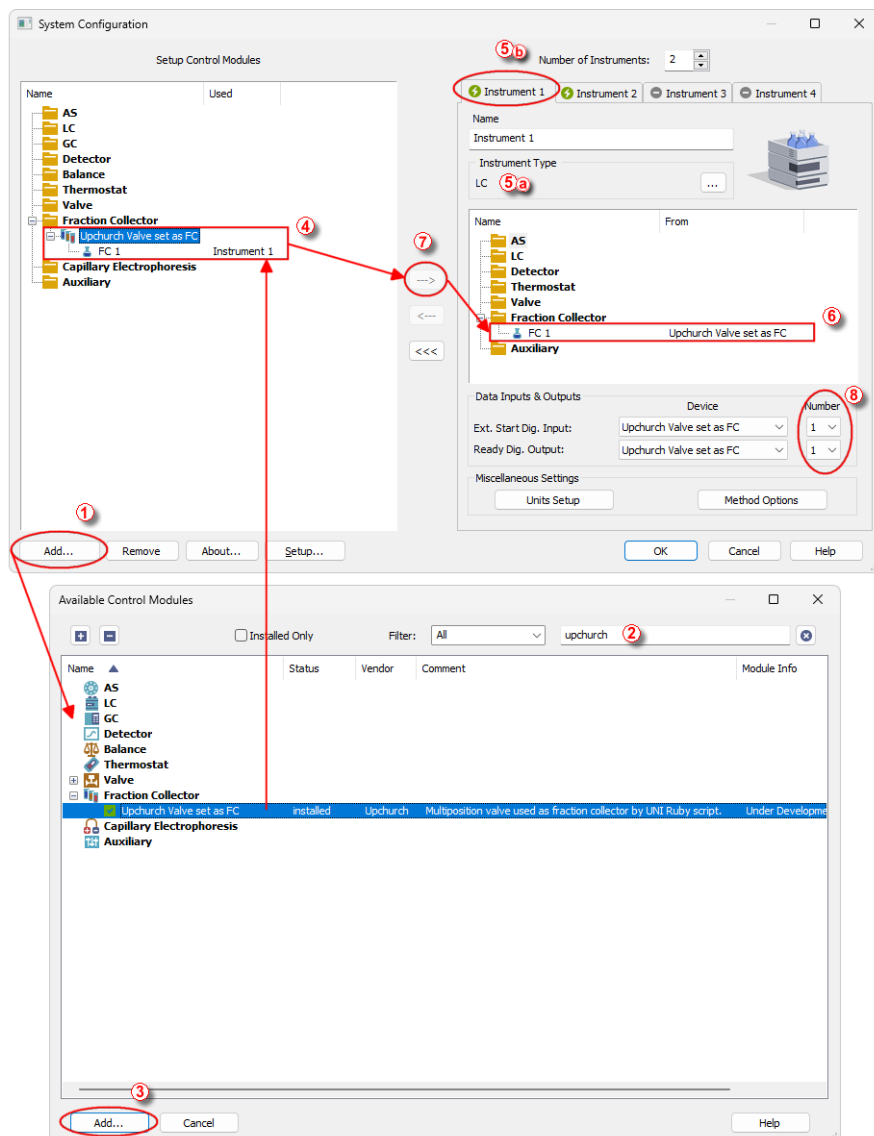

Fig. 3: How to add FC by Upchurch Valve
- Press the **Add** button (① on Fig. 3 on pg. 4.) to invoke the *Available Control Modules* dialog.
- You can specify the search filter ② to simplify the finding of the driver.
- Select the correct item and press the **Add** (③ on Fig. 3 on pg. 4.) button. Each device with already created UNI profile should have its own item named accordingly in the *Available Control Modules* dialog.